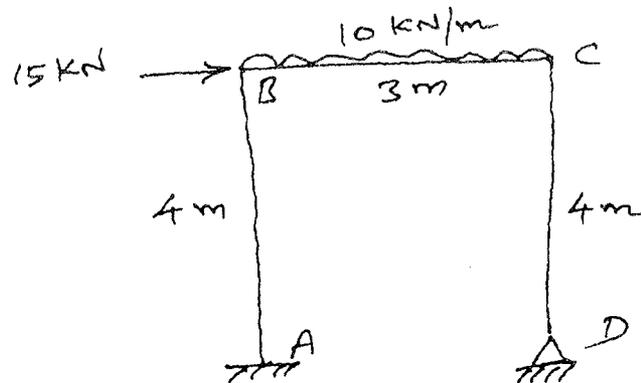

Fig. Q. 15 (b)
- (b) Determine the plastic moment capacity required for the frame shown in Fig. Q. 15 (b).